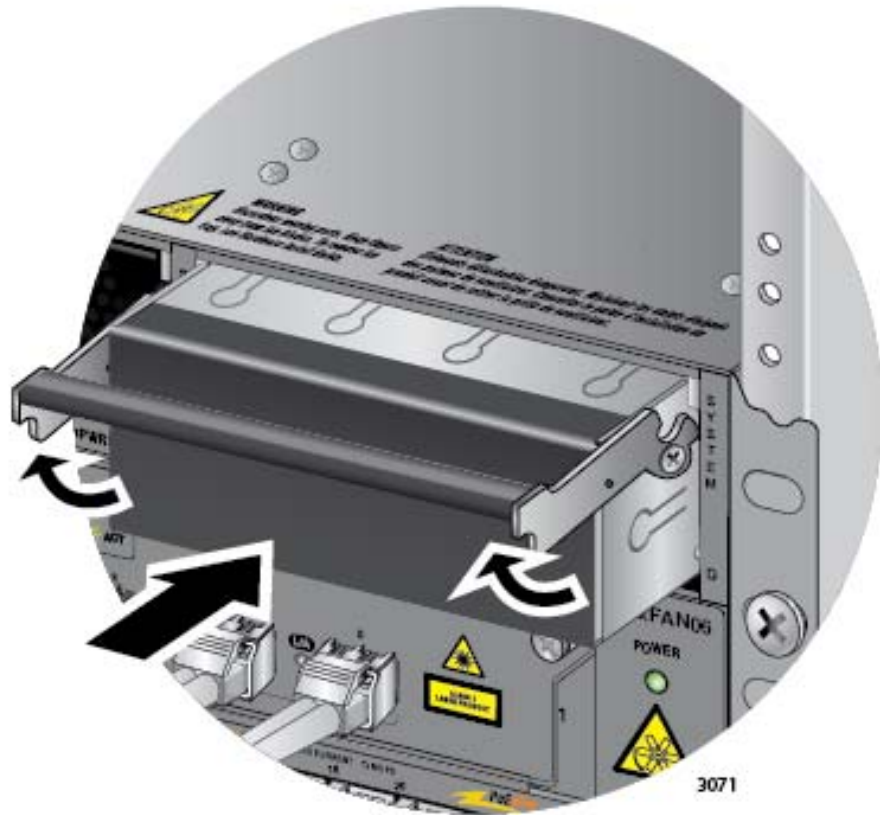

Figure 150. Installing a Blank Power Supply Slot Cover
5. Place the locking handle on the slot cover in the up position and slide the cover into the empty power supply slot. Refer to Figure 150 on page 234.